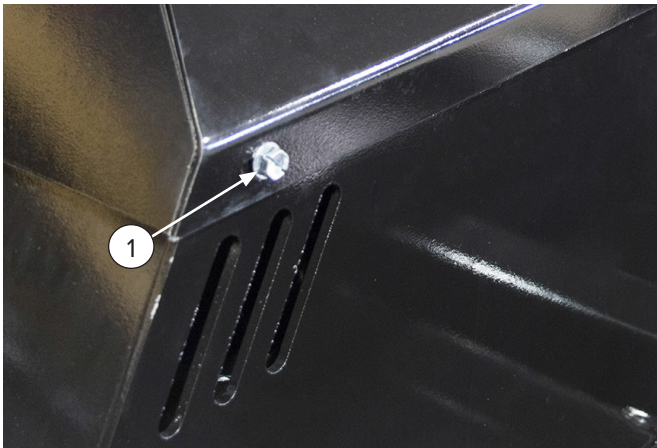

Figure 5
1. Loosen the bolts [Figure 5, Item 1], and remove the cover to access the direct drive.
1. Loosen the bolts [Figure 5, Item 1], and remove the motor cover to access the direct drive.